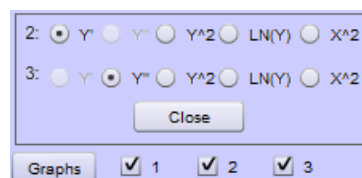

Figure 6: Graphs Tool
- Add graphs #2 and #3 by clicking the check boxes below the data table. (Figure 6.)